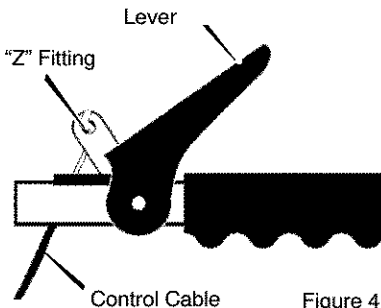

Figure 4
**NOTE:** If the cables have become disconnected from the drive levers, re-install the cables as shown in Figure 4.